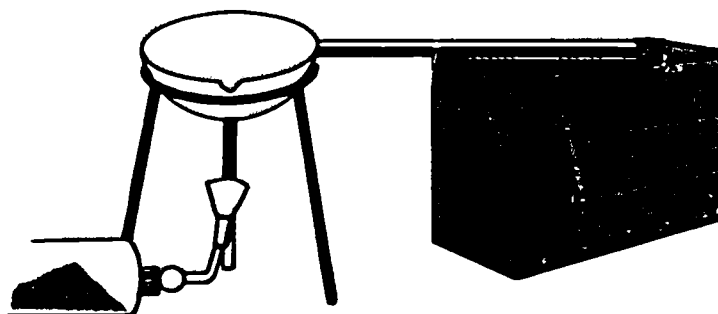

Fig. 51A-1. Ladle in Ringstand
- Set up the ladle in the tripod ring stand and prepare the torch on a 12" x 24" piece of Transite. See Fig. 51A-1.
- Each student in the group is to make his own flask. Nail the four pieces of wood together. See Fig. 51A-2.